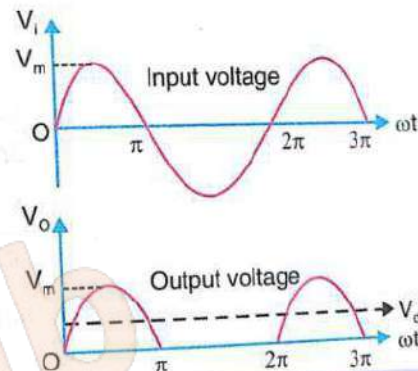

Fig. 58.14
Fig. 58.14 shows the variation of this input voltage with time. V_m is the peak value.
i.e., V_i . During the next half cycle, the end A becomes negative. The diode is now reverse biased. Therefore, no current flows through the load R_L . The voltage across the load is zero. The shape of the output voltage is shown in Fig. 58.14. This voltage is not a perfect dc. But it is unidirectional.